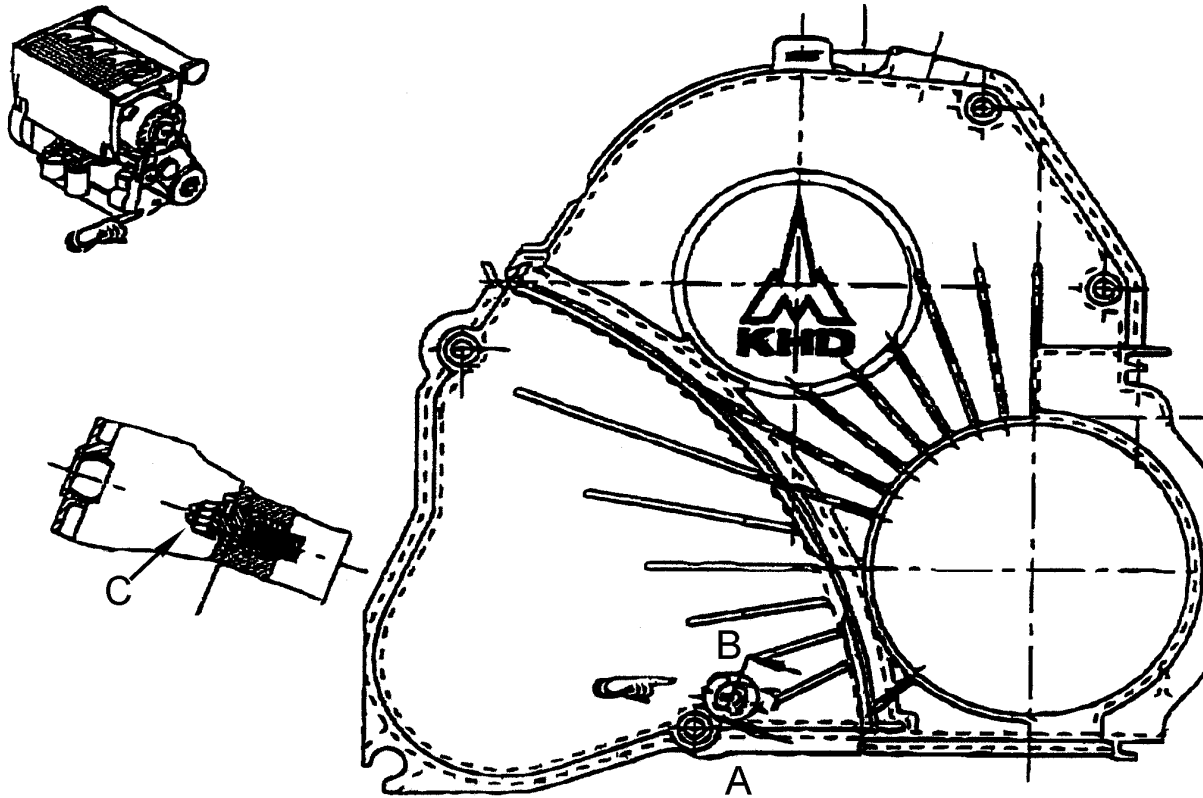

FIGURE 2-1-13. GOVERNOR BUFFER SPRING, DEUTZ
See Figure 2-1-13
3. Remove lower plastic belt protection cover (see Figure 2-1-13, items A-B) to provide access to the governor buffer spring by removing two (2) 6 mm bolts using a 10 mm wrench.
4. Before any speed adjustments are made, the buffer spring must be backed off. This is done by loosening the locknut, 6 mm using a 10 mm socket, by $\frac{1}{2}$ -1 turns counterclockwise while holding the center slotted screw from turning (See Figure 2-1-13, item C). Turn the slotted screw counterclockwise until contact against the governor arm no longer exists (approximately 1 - 2 turns)